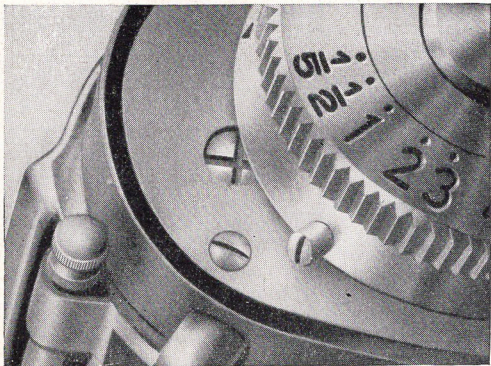

Fig. 36
To control the film transport there is the control disc (am. the rotating film speedometer) marked by a red cross (19). The cross turns, when the spool of the cassette rotates (Fig. 36).
Film rewinding is done as follows: Hold the camera with your left hand and press down the stud (7) during the whole rewinding process (Fig. 38). With your right index finger, press in the central part (38) of the film rewinding knob (37) as far as it will go (Fig. 39). Now the fork of the film rewinding knob catches the bar of the film spool and by uniformly turning the rewinding knob (37), the film is rewound into the original cassette. You can observe that the film rewinds all right, when you see the control disk (19) (Fig. 36 page 28) and the axle of the film transport lever (6) turning (Fig. 40). While rewinding, the axle of the take-up spool turns in opposite direction of the lever (6). Once the film rewound, the rewinding axle